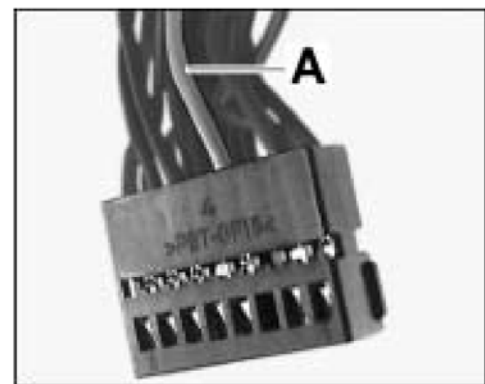

Figure 10
- 3.6.1 Press socket contact of line RD/GN 0.352 out of **chamber 4** (30G I)  $\Rightarrow$  *Figure 10-A*.